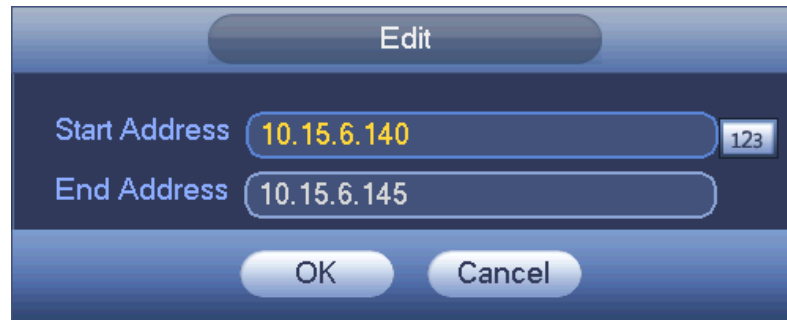

Figure 4-115
- Edit: Click it to edit start address and end address. See Figure 4-115. System can check the IP address validity after the edit operation and implement IPv6 optimization.